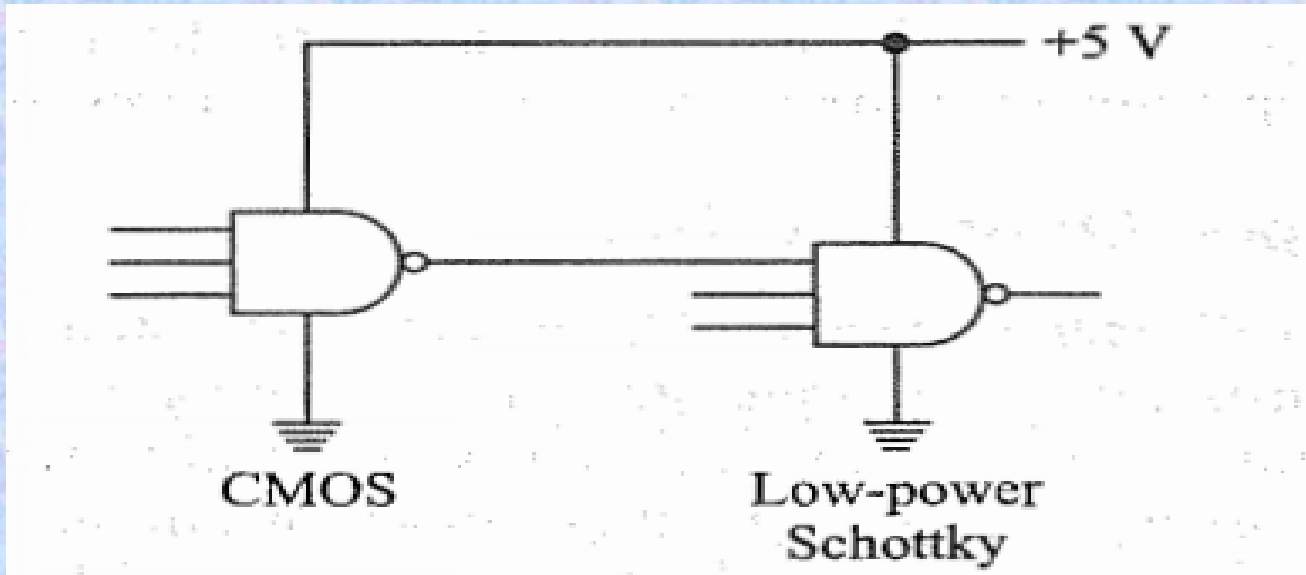

Fig. 1.38 CMOS driver and low-power Schottky TTL load
- One approach is to use +5 V as the supply voltage for the driver and the load, as shown in Fig. 1.38. A direct interface like this forces you to use a low-power Schottky TTL load (or two low-power TTL loads). Why? Because a low-power Schottky device has these worst-case input currents: